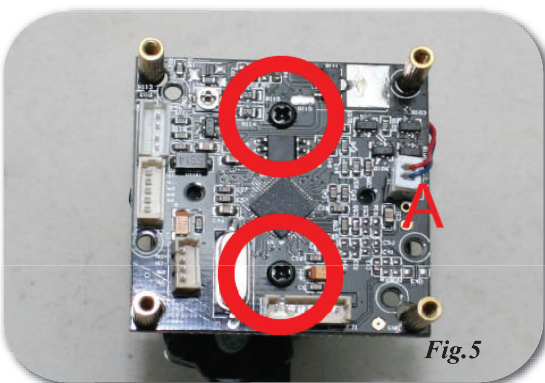

Fig.5
Step 5: Afterwards remove both screws from the backside of the CMOS board that are holding the lense mount and remove the mount with your old lense. (Fig.5)